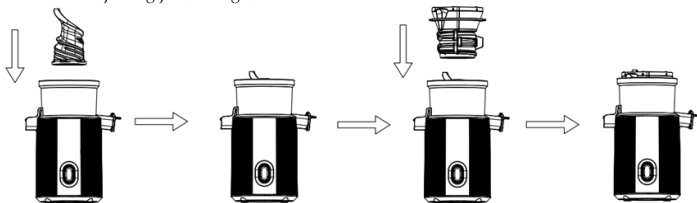
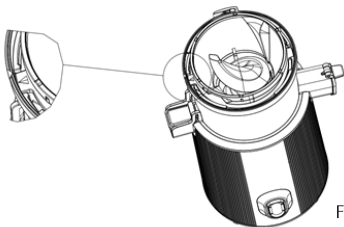

Fig.3
Fig.4
2. Put the grinding head into the juicing jar and ensure the grinding head is covered well into the axis of the motor unit, and then put the strainer downwards to cover the grinding head (see Fig.3). Ensure that the symbol "►" on the strainer shall align with the symbol "◄" on the juicing jar (see Fig.4).